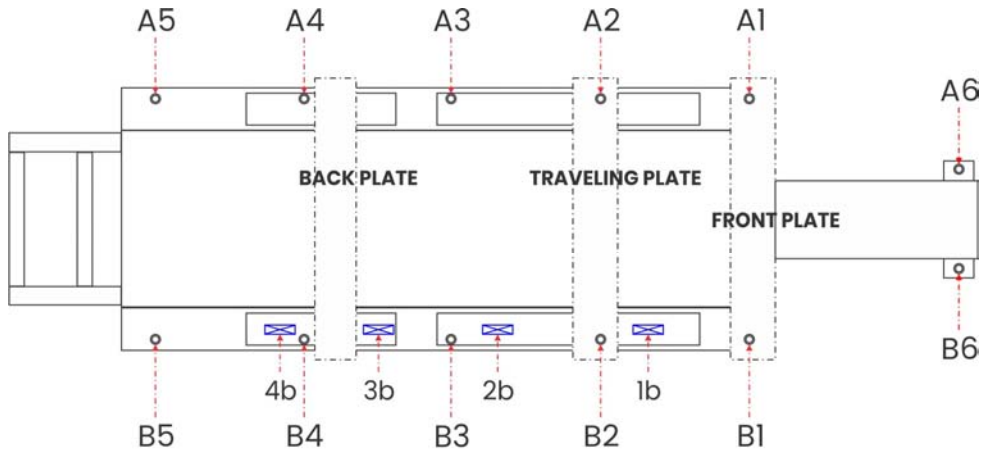

Figure 2-2
17. Repeat steps 15 and 16 for Side-B until completely level. See Figure 2-2.